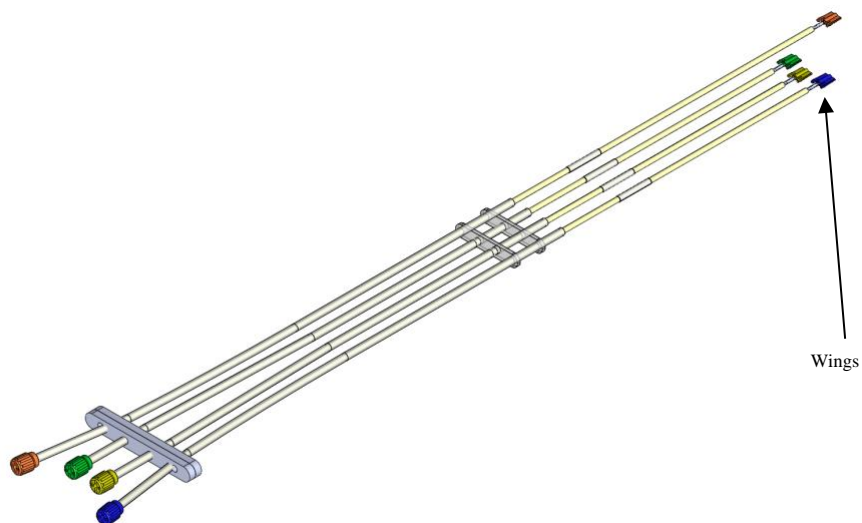

Figure 10: Thumb Wheel Extension
1. Remove the Thumb Wheel Extension Set from its sterile barrier package. **See Figure 10.**